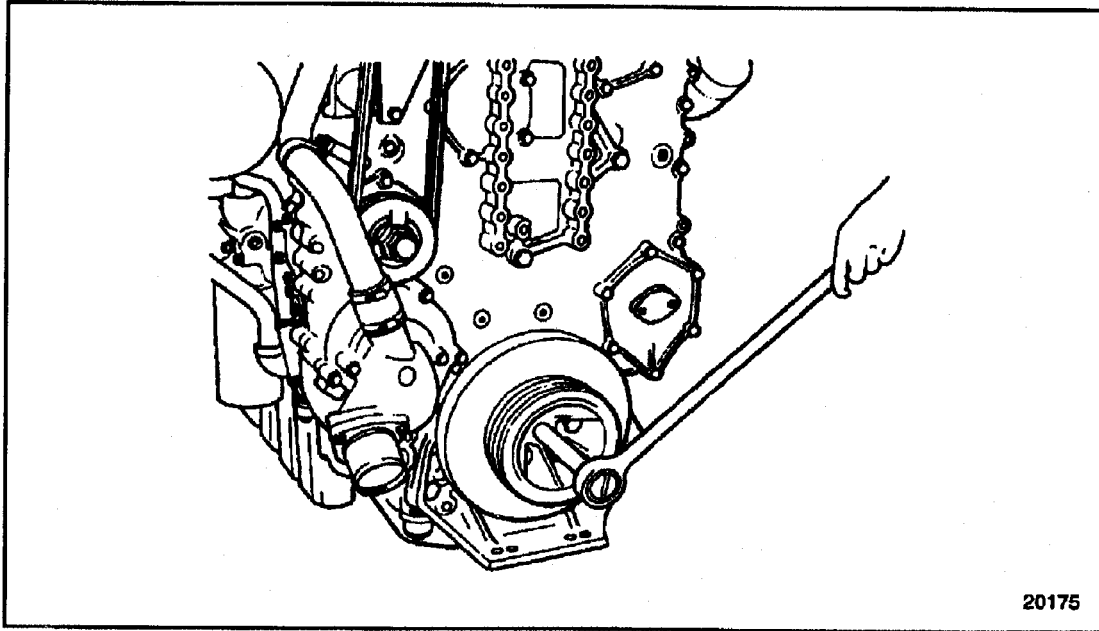

Figure 1-353 Barring Engine Over
6. Using the 3/4 in. square drive hole in the center of the crankshaft pulley and a 3/4 in. drive breaker bar, turn the crankshaft slowly in the direction of engine rotation. See Figure 1-353. Stop when the rod reaches the end of its upward travel.